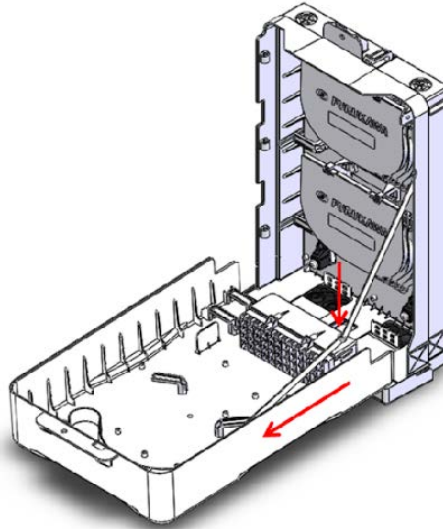

Figure 4
- 1.1.2 Push the plastic insert and remove the adapter plate (Fig.4);